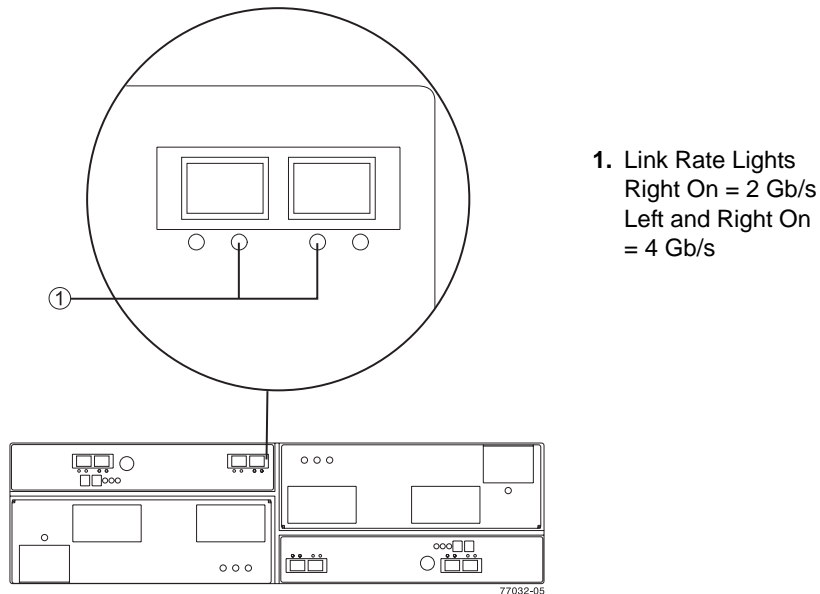

Figure 7 Link Rate Lights
- The Link Rate switch enables you to select the data transfer rate between the ESMs, drives, and controllers. The Link Rate lights are located on the ESMs on the back of the drive module (Figure 7 on page 12).